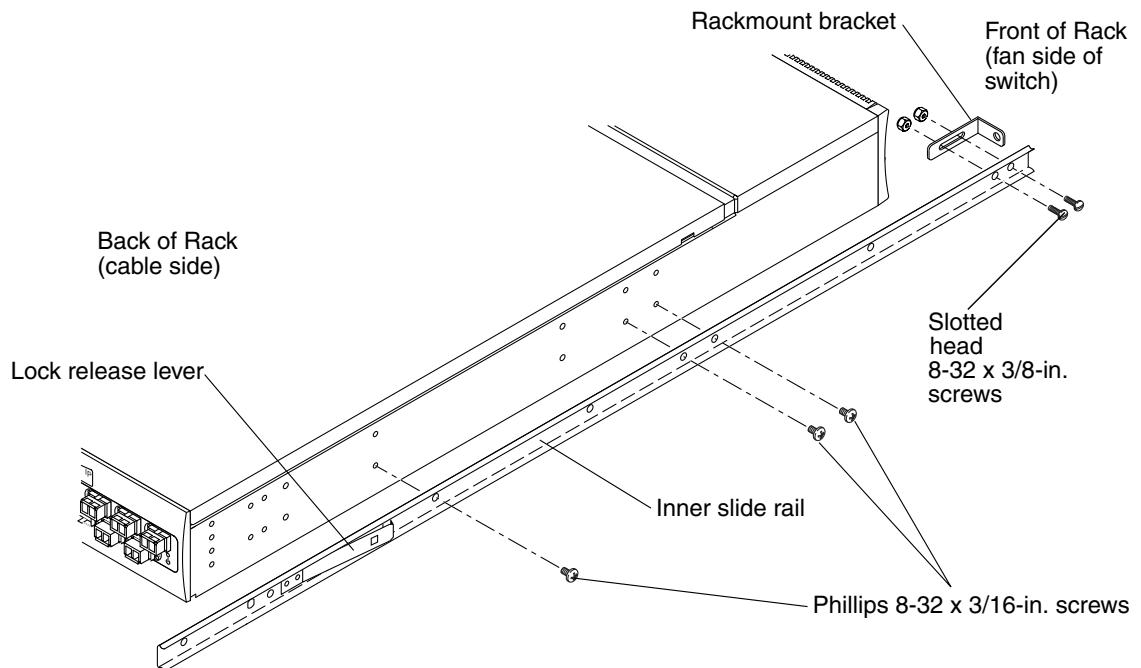

FIGURE 3-2 Installing the Inner Rail (Shown With Optional Lower Set of Holes)
- To install the switch so that the additional 0.5 RU is above the slide rail, install the inner slide rail in the lower row of holes on the switch. See FIGURE 3-2.
To allow the power supply side of the switch to slide out of the front of the rack, orient the rail as shown in FIGURE 3-2, with the end containing the lock release lever toward the cable side of the switch.
Note – The SilkWorm 3900 switch illustrated in FIGURE 3-2 has a height of 1.5 RU, whereas the SilkWorm 4100 and 200E switches have a height of 1.0 RU.
- a. Position a rackmount bracket at the end of the inner slide rail (the end that does not contain the lock release lever), as shown in FIGURE 3-2.